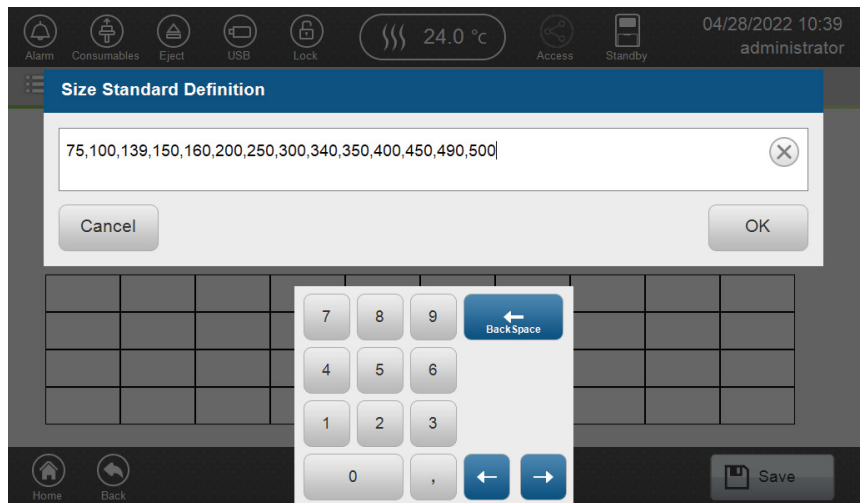

Figure 138. 'Size Standard Definition' screen.
5. A pop-up window will be displayed allowing the user to enter the size for the size standards (Figure 138). Each value needs to be separated with a comma (,). Select **OK** to close the window.